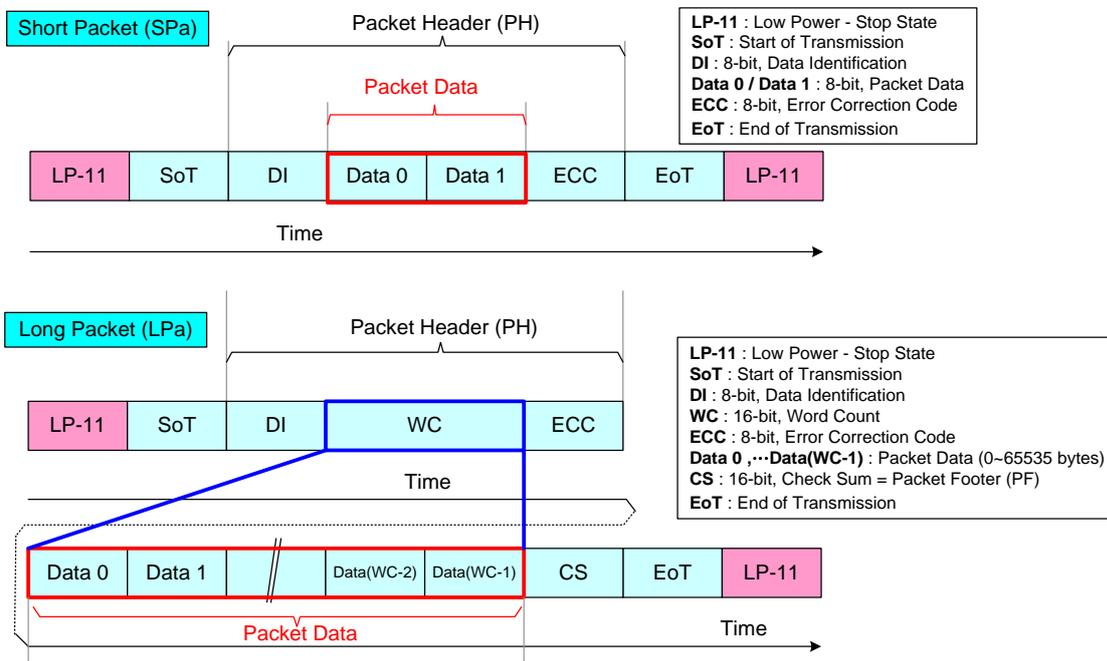

Figure 45: Packet Data in Short and Long Packets
4.1.3.1.3.3. Word Count (WC) in a Long Packet (LPa)
Word Count (WC) of the Long Packet (LPa) is placed after Data Type (DT) of the Data Identification (DI) and indicates that a Long Packet (LPa) is to be sent. Word Count (WC) indicates the amount of data bytes of the Packet Data (PD) that is to be sent after the Packet Header (PH). The location of the Word Count (WC) in a Long Packet is the same as which of the Packet Data (PD) in a Short Packet (SPa), as shown in Figure 45. Word Count (WC) of the Long Packet (LPa) consists of 2 bytes. The sending order of these 2 bytes of the Word Count (WC) is that the Least Significant (LS) Byte is sent first, and the Most Significant (MS) Byte is sent last. Word Count (WC) of a Long Packet (LPa) is illustrated for reference purposes below.